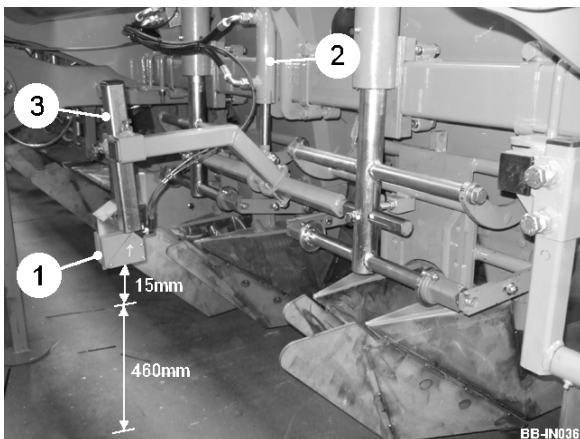

Fig 13
Automatic depth control of each pair of openers ensures that the desired planting depth is maintained irrespective of the contours of the bed. Each unit consists of two PIR (passive infra red) sensors (item 1, figure 13) which sense the height of the bed in front of the openers. The depth ram (item 2, fig 13) then raises/lowers the openers independently thus maintaining planting depth. The depth control is turned on from the control box switch marked 'AUTO DEPTH'. The LED will illuminate when the system is active. The 3 switches marked 'OPENER RAISE/LOWER' will override the automatic depth on the rows indicated.
4. Fully lower the auto-depth sensor leg (item 3, figure 13) and then gradually raise it until the point at which both 'up' and 'down' sensor lights illuminate (approx 460mm above bed). Ensure the sensors are sensing the height of the bed and not any other surface in-between.